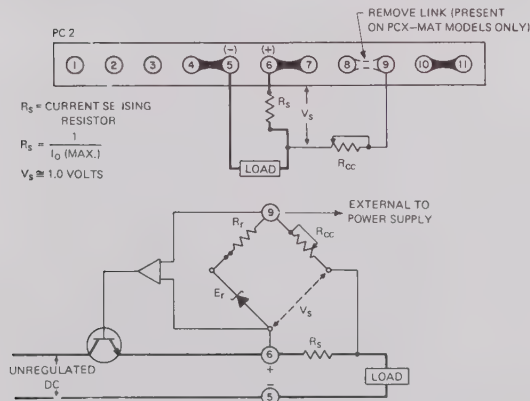

FIG. 3-8 CONNECTIONS FOR CONSTANT CURRENT OPERATION
- 3-27 In the constant current operating mode, the voltage comparison bridge is interconnected with an external current sensing resistor, R_S and a current control, R_{CC} , (as shown in FIG. 3-8) to maintain a constant voltage drop across R_S . In this way, an adjustable constant load current is obtained. Characteristic of the constant current supply is the ability to change its output voltage automatically in order to maintain a constant current through a range of possible load resistances. The range of output voltage that the supply can deliver and simultaneously maintain constant current, is referred to as the "COMPLIANCE VOLTAGE".
3-30 PROCEDURE (Refer to FIG. 3-8)